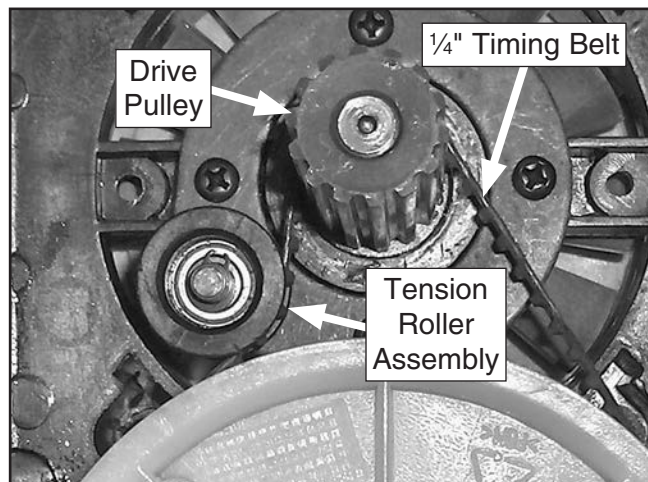

Figure 28. Timing belt installed onto drive pulley and tension roller assembly.
16. Install ¼" timing belt onto drive pulley (#15) with timing belt wrapped around proper side of the tension roller assembly (#17), as shown in **Figure 28**.